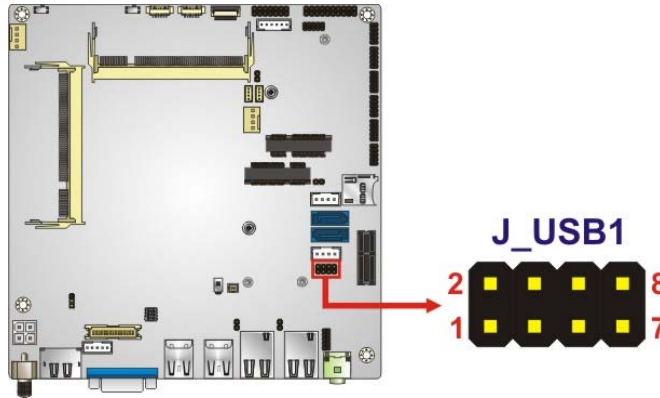

Figure 3-26: USB Connector Location
- CN Location:** See Figure 3-26